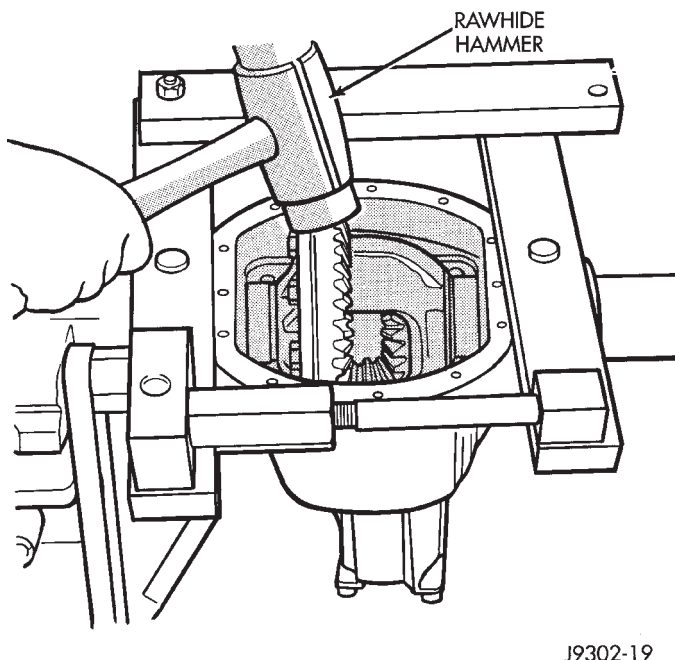

Fig. 17 Differential Installation
(5) Install case in the housing. Tap the differential case to ensure the bearings are fully seated (Fig. 17). Remove the spreader.